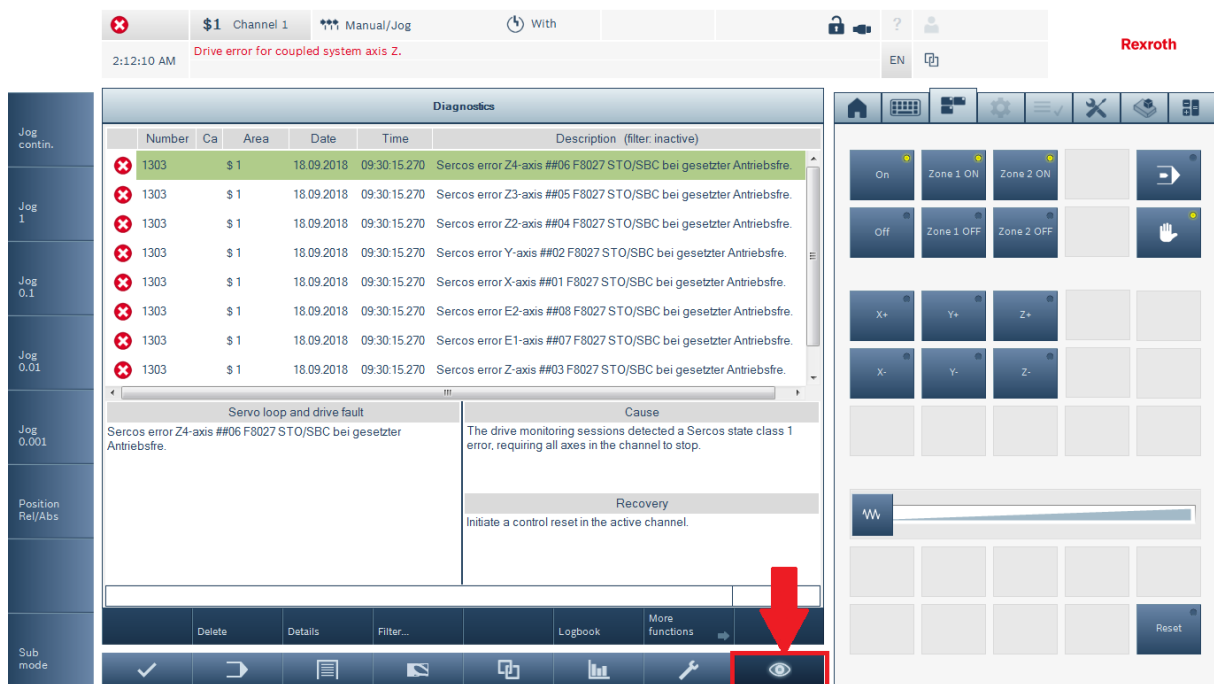

Figure 35
- For detailed information about an error message, navigate to the Message Block (fig 35).